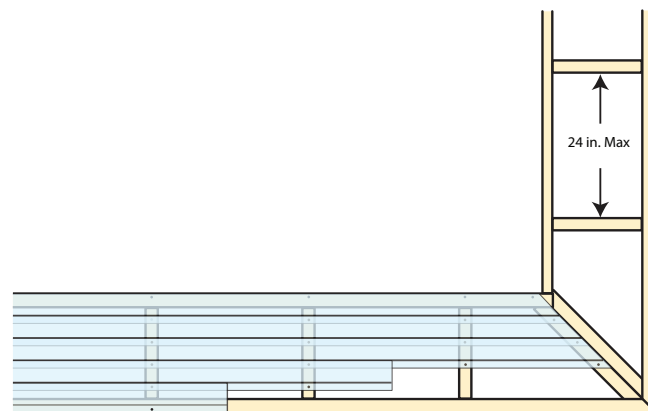
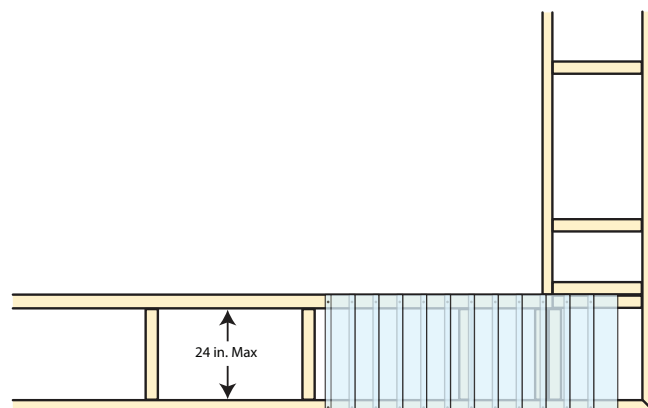

FIGURE 22
FIGURE 23
- D. V Rustic can be installed in the long direction (fig. 22) or the short direction not greater than 24 in. on center (fig. 23)
Artisan V Rustic siding butt joints are recommended to land off stud (fig. 22). Install butt joints in moderate contact in soffit applications (caulking, H covers, and battens are also acceptable).